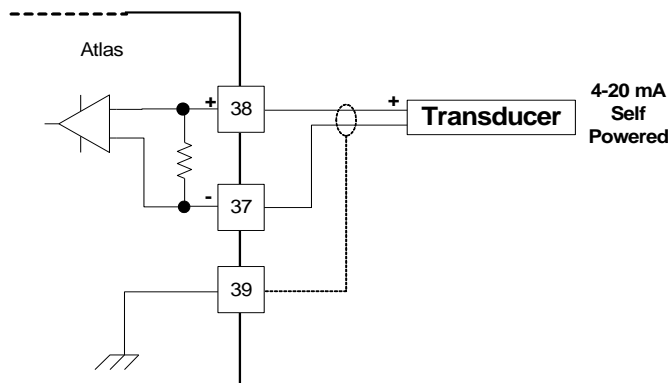

Figure 4-11a. Wiring Example—4–20 mA Input Interface to the SmartCore CPU A5200 Board
- Refer to Figures 4-11a, b for analog input wiring.